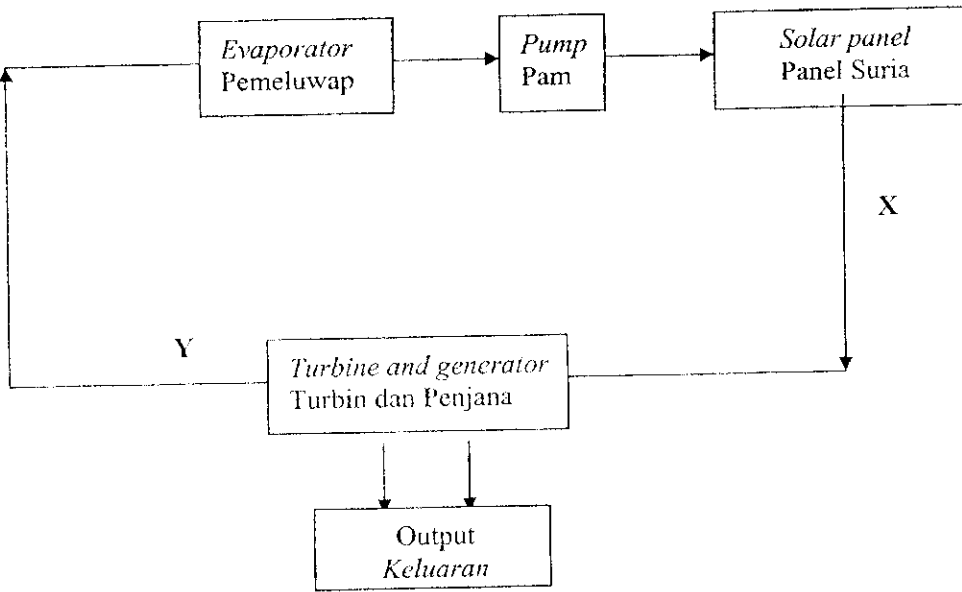

Figure 8
18. Figure 8 shows a block diagram from a part of solar energy power plant system